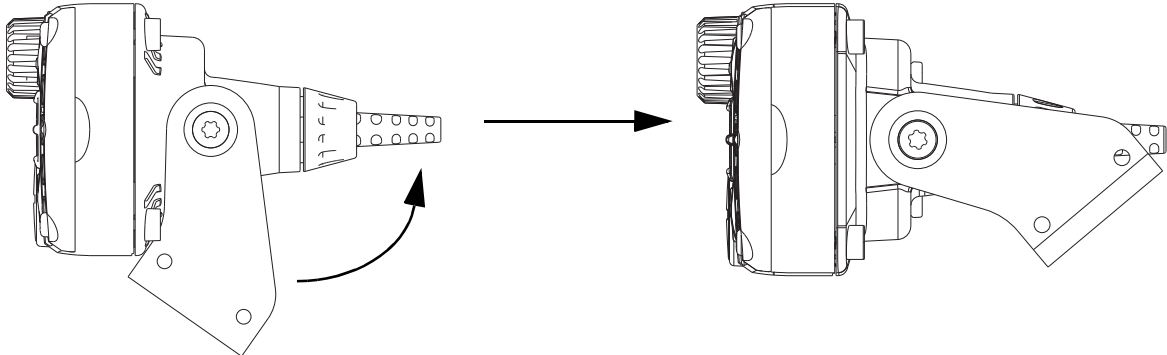
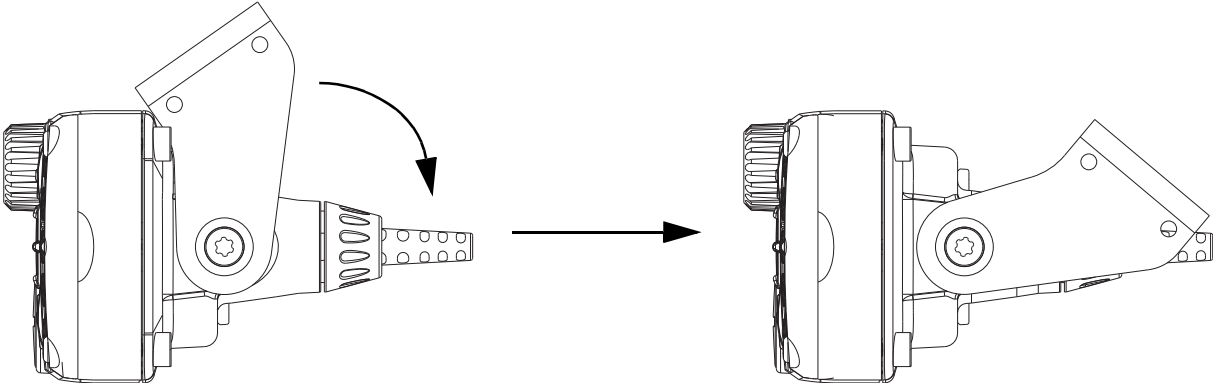

Figure 17 Upward Movement
Figure 18 Downward Movement
3. There are two ways to mount the motorcycle trunnion, each limited to a 77 degree of allowable movement, as shown in Figure 17 and Figure 18: